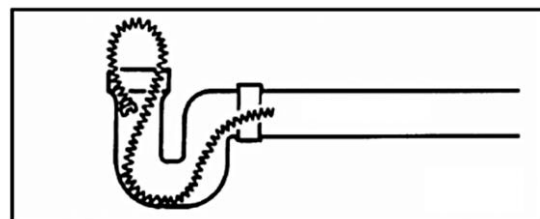

Figure 6 – Looping Cable In Line
- Secure the cable by looping it in the line (Fig 6).